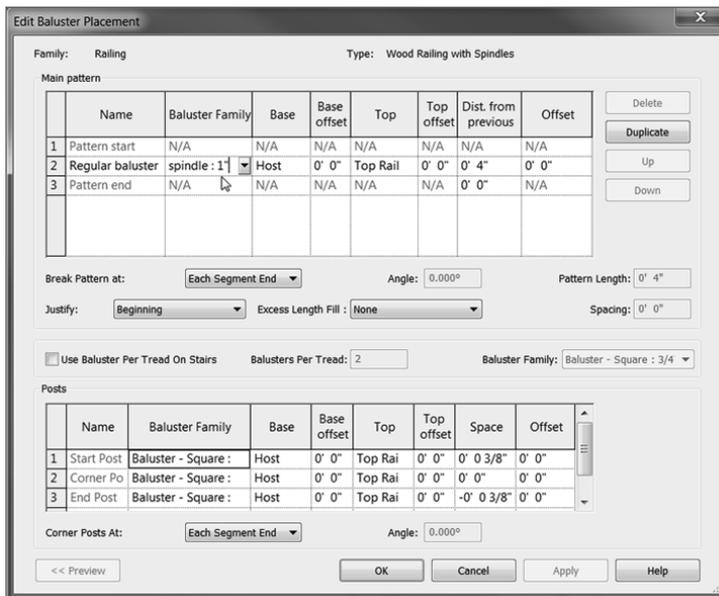

FIGURE 10.57: Adding the spindle to the Main Pattern area
20. In the Main Pattern area, change Baluster Family to Spindle: 1" (25 mm) (see Figure 10.57).